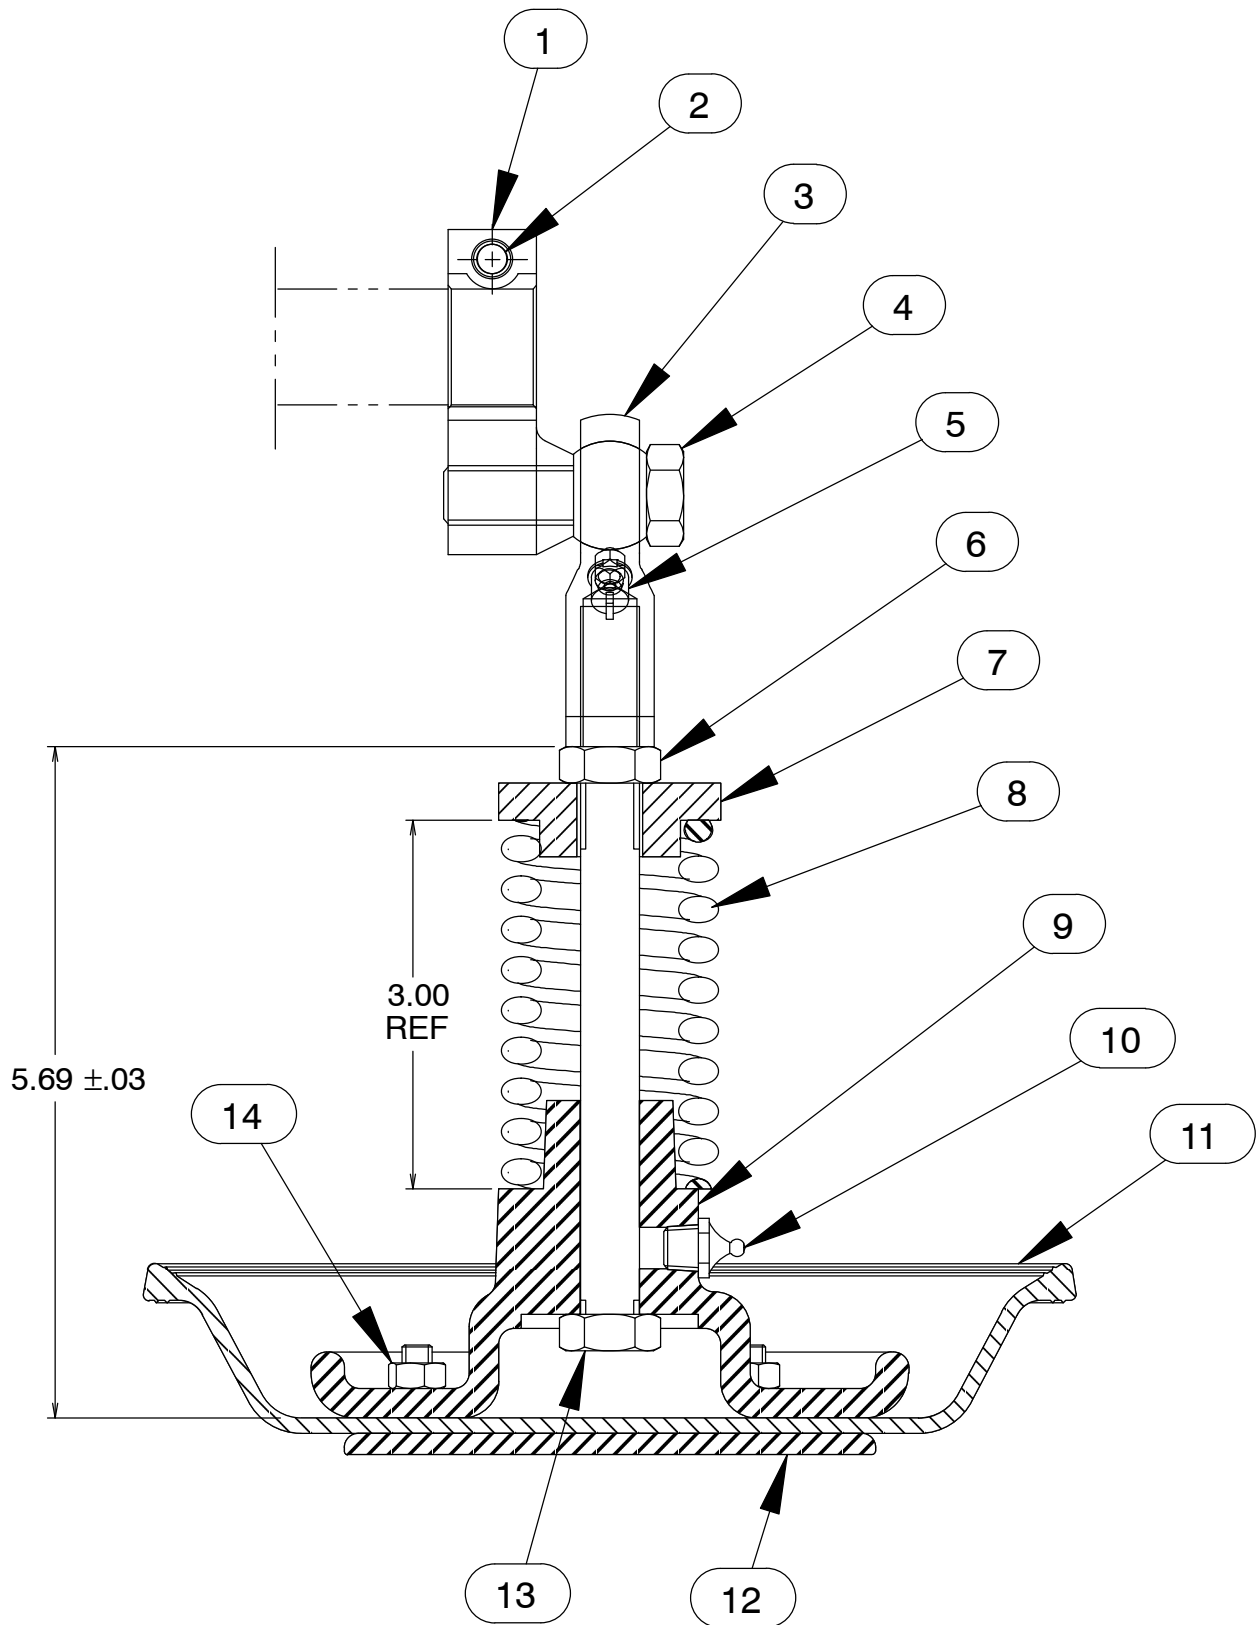

Figure 2. 46181-004 Plunger Rod Assembly
Before attempting to remove the diaphragm (11, Figure 2), rotate the motor shaft until the eccentric (1, Figure 2) is at the top of its stroke and the spring (8, Figure 2) is decompressed.
(Figure 2)
Plunger Rod and Diaphragm Reassembly and Installation**(Figure 2)**
Slide the plunger rod (13) through the diaphragm plate (9). Install the spring (8), spring centering washer (7) and jam nut (6). Compress the spring to the dimension shown in Figure 2 by tightening the jam nut.
Position the retainer ring (13) over the diaphragm. Position the diaphragm and plunger rod in the diaphragm pot (24) with the grease fitting (10, Figure 2) facing away from the gear reducer (9).
If removed, secure the key (14) in the gear reducer keyway with “Loctite Retaining Compound No. 680” or equivalent and slide the eccentric over the gear reducer shaft. Secure it by tightening the socket head capscrew (2, Figure 2).